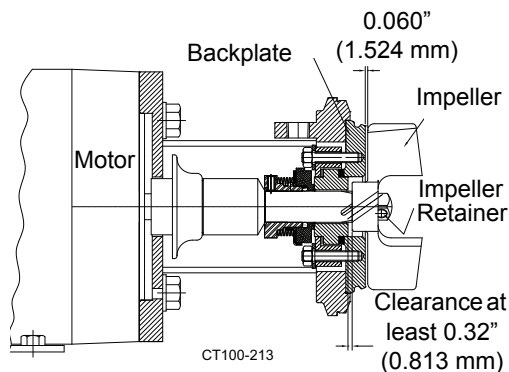

Figure 32 - Installing backplate and impeller
8. Assemble the back-plate, insert the impeller-retainer on the stub shaft, locating it in the center and install the impeller, tighten against the stub shaft and turn it until the impeller-retainer falls and secure the impeller. (See Figure 32.)
9. Before installing the casing, visually inspect the impeller hub and seal face to ensure that there is clearance between them. If no clearance is visible, disassemble the pump and move the stub shaft forward, to provide at least 0.032" (0.813 mm) clearance between the impeller hub and the seal seat face. (See Figure 32.)